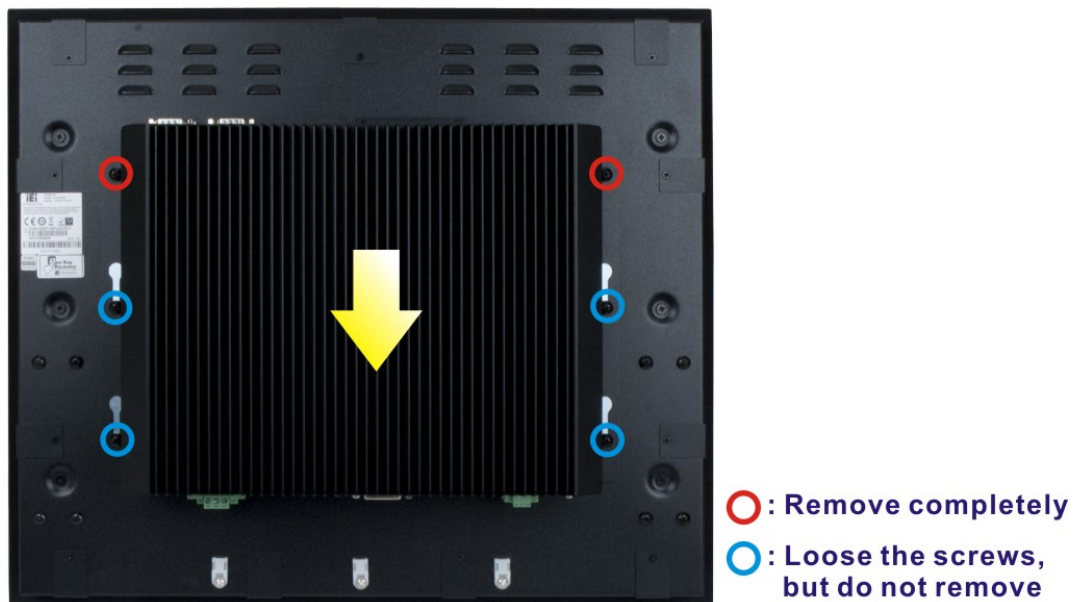

Figure 3-3: SBOX Computer Retention Screws
Step 1: Remove the SBOX computer from the S19A/S24A-QM87i rear panel by removing/loosing the six retention screws indicated in **Figure 3-3**. Slide the SBOX computer downward and lift the SBOX.